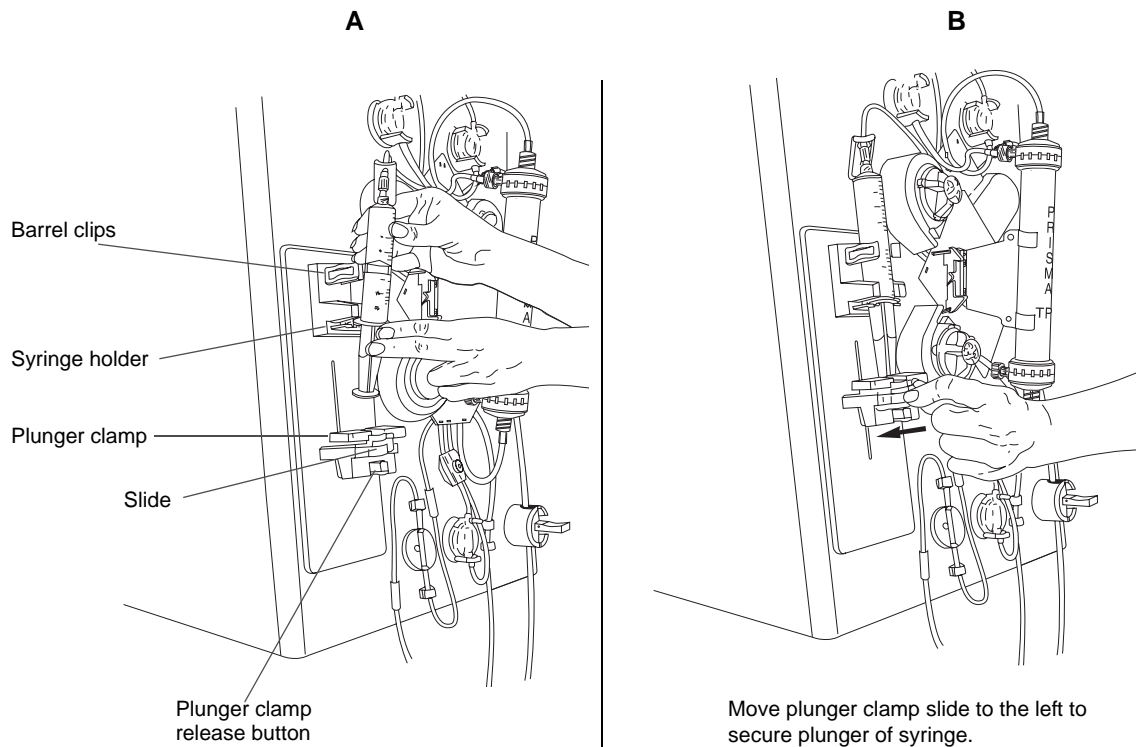

Figure 2-10. Installing Anticoagulant Syringe with the PRISMA TPE Set
(See Figure 2-10)
4. Install the full syringe, following Steps 5 through 7 under “Initial Syringe Installation.” See Figure 2-10.